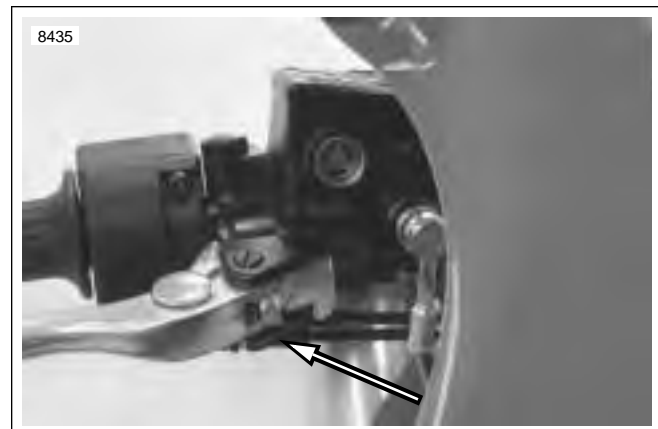

Figure 2-41. Front Brake Light Switch Connector
4. See Figure 2-41. Verify brake lamp switch wires are tight.